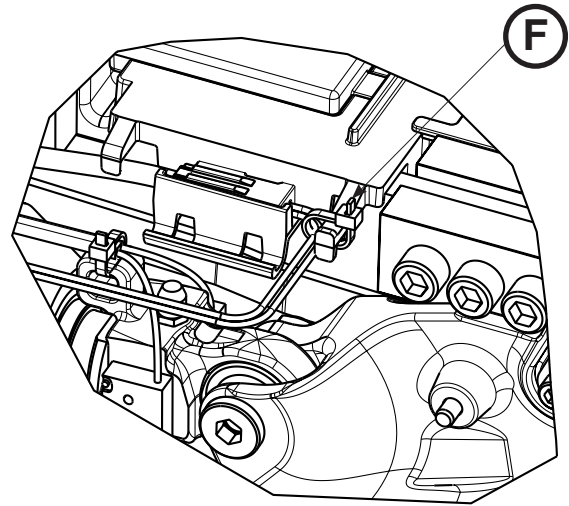

Figure 72
- Using diagonal pliers, cut the zip ties (F) that secure the hydraulic cylinder rod end assembly cable to the plastic cover (Figure 72).